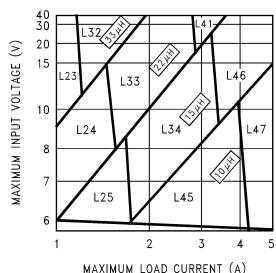
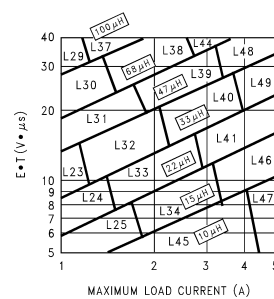

Figure 21. LM2677-3.3
Figure 24. LM2677-ADJ
Step 3: Determine the inductor required by using one of the four nomographs, Figure 21 through Figure 24. Inductor Manufacturer Part Numbers provides a specific manufacturer and part number for the inductor.
Step 5: Determine an input capacitor from Table 7 for fixed output voltage applications. Use Table 3 to find the specific capacitor type. For adjustable output circuits select a capacitor from Table 3 with a sufficient working voltage (WV) rating greater than $V_{in\ max}$, and an rms current rating greater than one-half the maximum load current (2 or more capacitors in parallel may be required).
Step 3: Use the nomograph for the 3.3V device, Figure 21. The intersection of the 16V horizontal line ($V_{in\ max}$) and the 2.5A vertical line ($I_{load\ max}$) indicates that L33, a 22 μ H inductor, is required.
Step 3: To use the nomograph for the adjustable device, Figure 24, requires a calculation of the inductor Volt•microsecond constant ($E \cdot T$ expressed in $V \cdot \mu s$) from the following formula:
Using Figure 24, the intersection of $27V \cdot \mu s$ horizontally and the $2A$ vertical line ($I_{load} \text{ max}$) indicates that L38, a $68\mu H$ inductor, should be used.
Important Note: When using the adjustable device in low voltage applications (less than $3V$ output), if the nomograph, Figure 24, selects an inductance of $22\mu H$ or less, Table 10 does not provide an output capacitor solution. With these conditions the number of output capacitors required for stable operation becomes impractical. It is recommended to use either a $33\mu H$ or $47\mu H$ inductor and the output capacitors from Table 10.